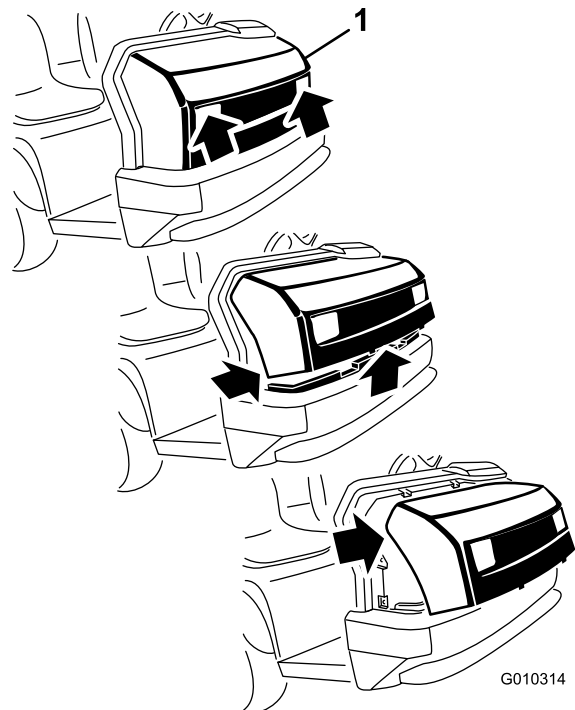

Figure 29
1. While grasping the hood in the headlight openings, lift up on the hood to release the lower mounting tabs from the frame slots (Figure 29).
2. Pivot the bottom of the hood upward until the top mounting tabs can be pulled from the frame slots (Figure 29).
3. Pivot the top of hood forward and unplug the wire connectors from the head lights (Figure 29).